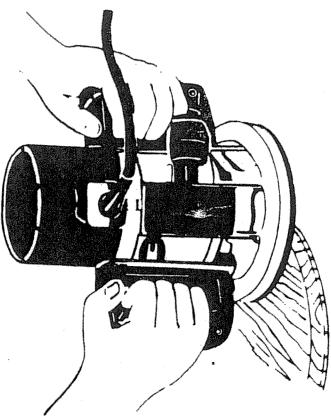

FIGURE 10
**Fig. 10** shows a molding edge being prepared to the edge of a table top, using a pilot tool and a T-square to produce deep cuts.